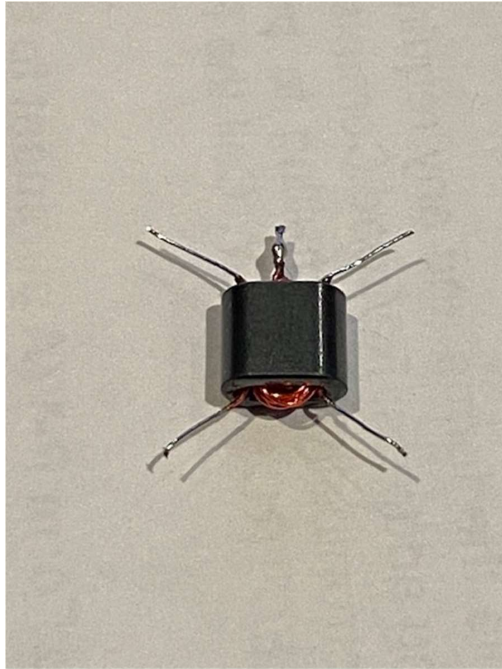

Figure 11. Trimmed T1 Transformer Leads Ready For PCB Soldering.
- viii. Use the same wire-stripping technique used in step “iv” above to complete stripping and tinning all leads on the transformer. Trim the leads to fit the space allotted for T1 on the circuit board. See Figure 11.